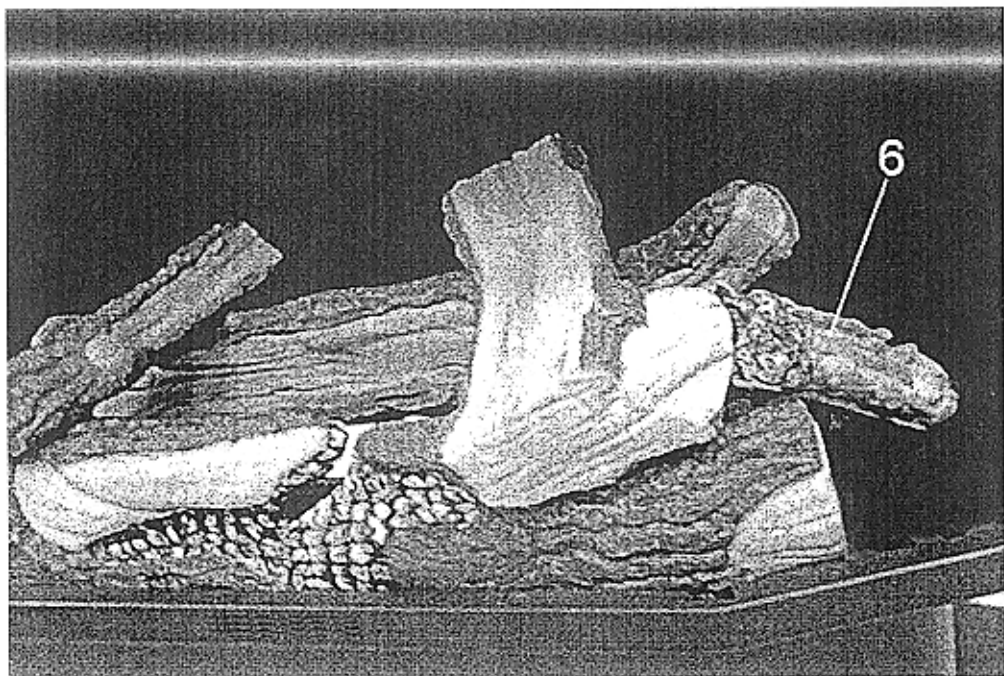

Figure 5
STEP 4: Put log6 and log1 on top of firebox plate to shield burner inlet tube (See Figure 5).